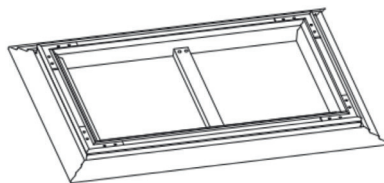

Fig 8.
8. Insert the support strut (L) to the centre of the length of the frame (according to fig. 8) and fix it with the screws (P) to the connecting bracket (I).